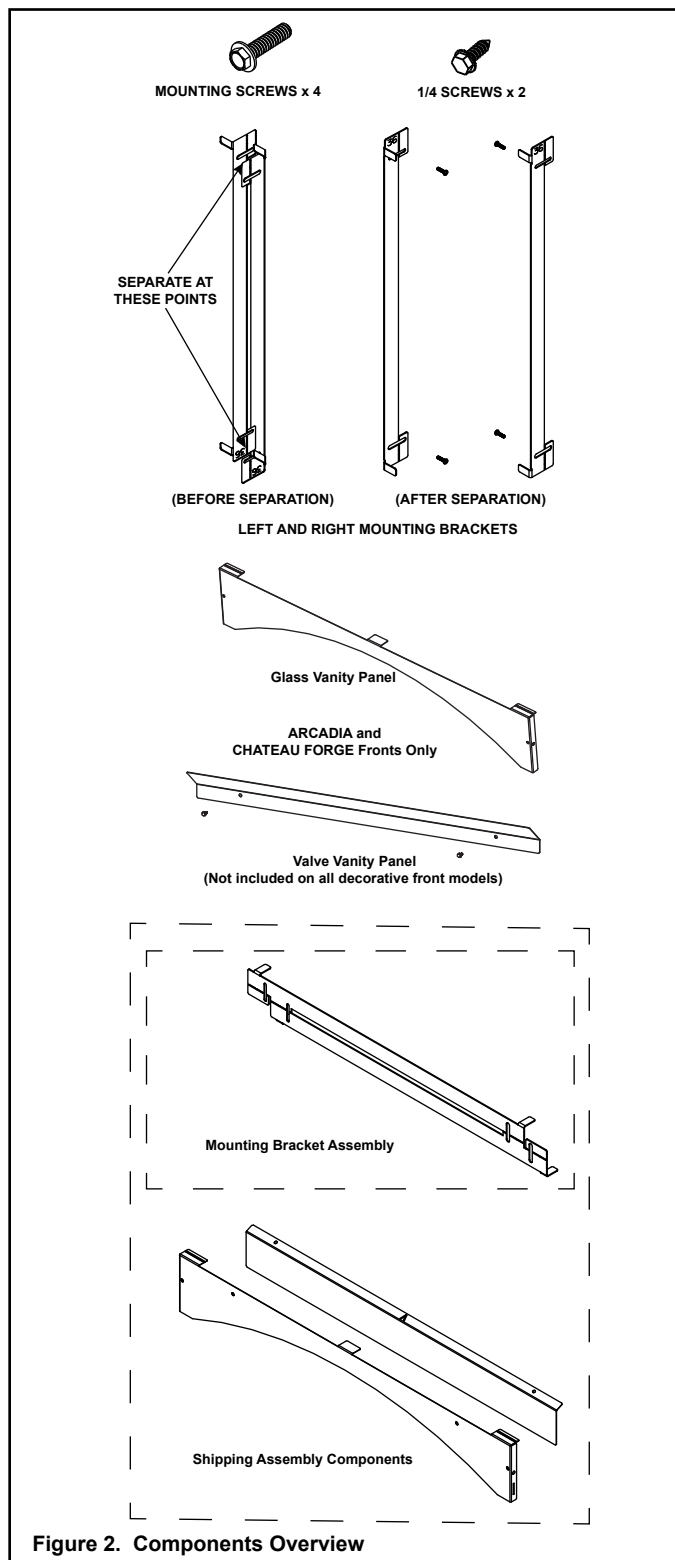

Figure 2. Components Overview
1. Remove components from package. Components included will depend on the door/front being installed. The shipping assembly is secured to the back side of the decorative front. Remove shipping assembly using a 1/4 in. nut driver and discard screws. See Figure 2.
2. Remove mounting bracket assembly and bend the mounting bracket assembly vertically to separate the left and right brackets. See Figure 2.